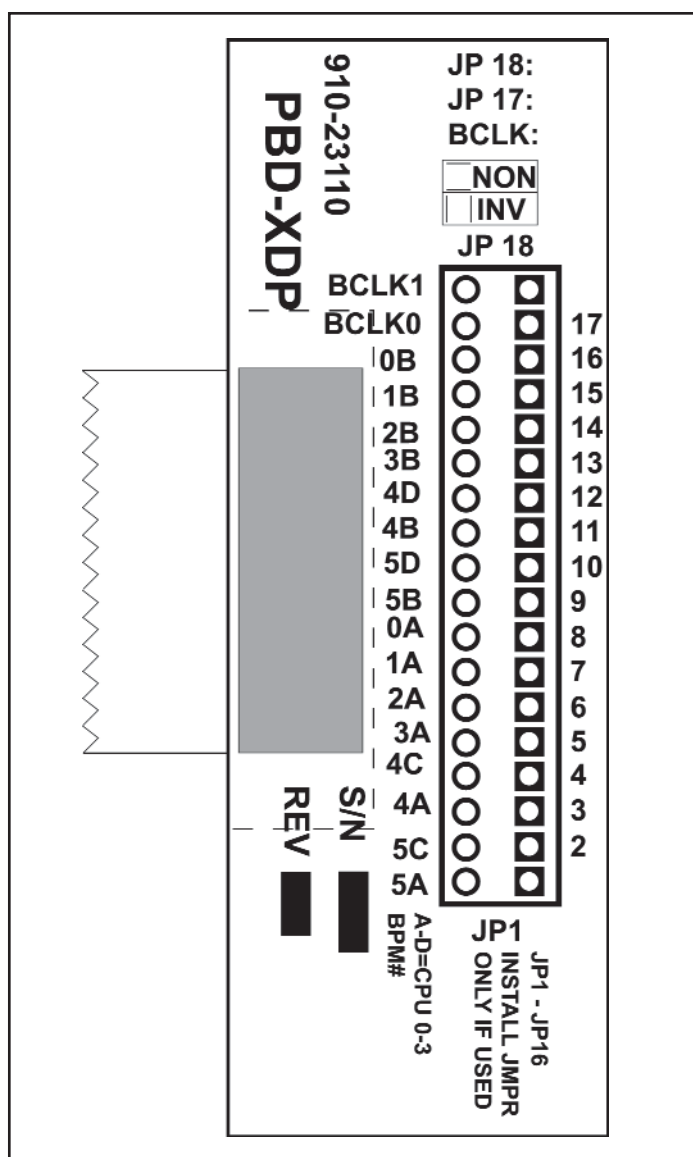

Figure 2
2. Adjust shunts on JP1 through JP16. (See Figure 2 on back.)